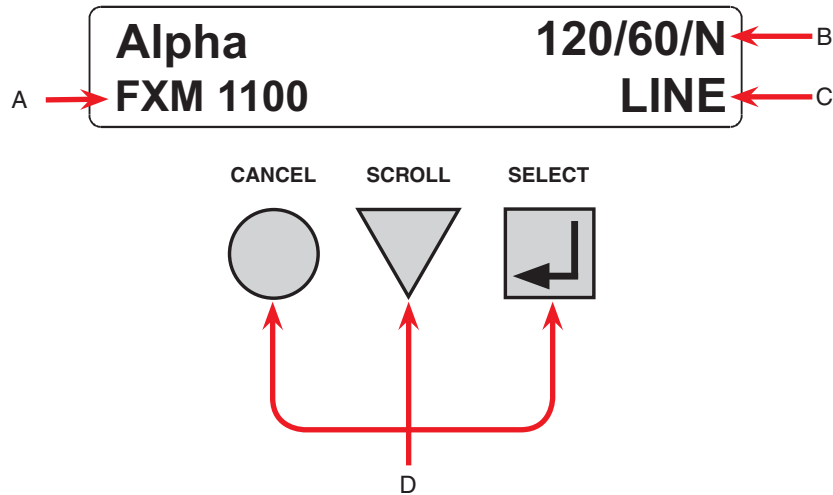

Figure 10 — LCD Control Panel Logo Screen
**B** Sense Type setting - Normal (N) or Generator (G); see "Operating the Alpha FXM", Sense Type.
**C Present operating mode** - (LINE mode shown) See Figure 10.